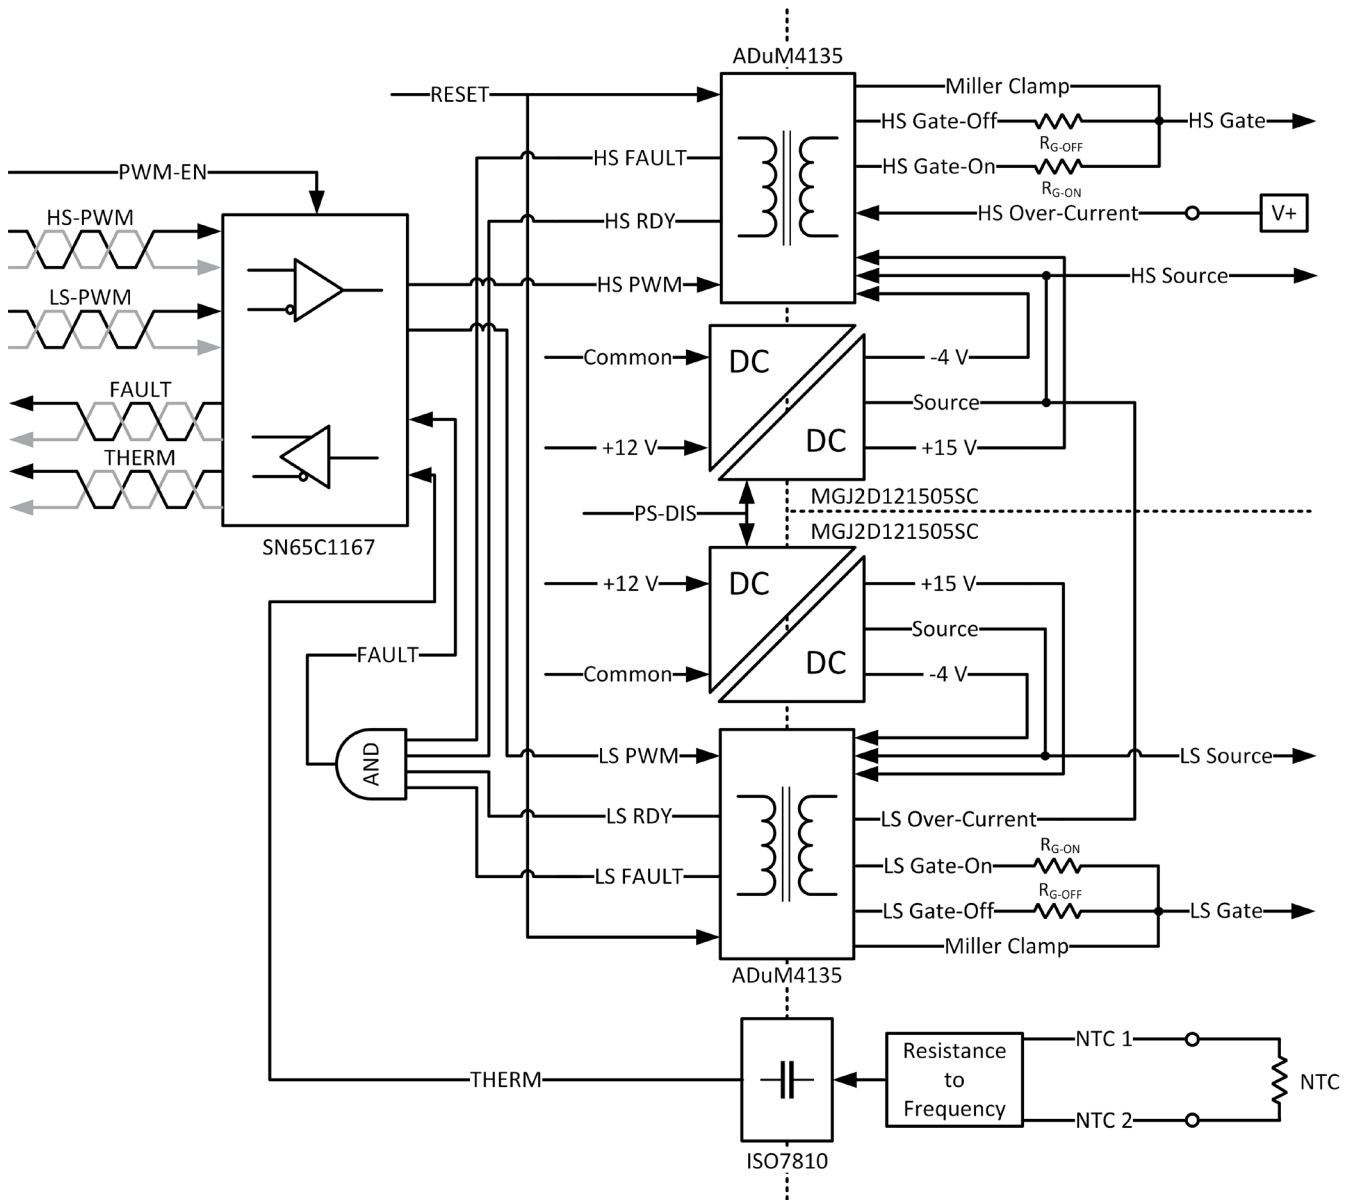
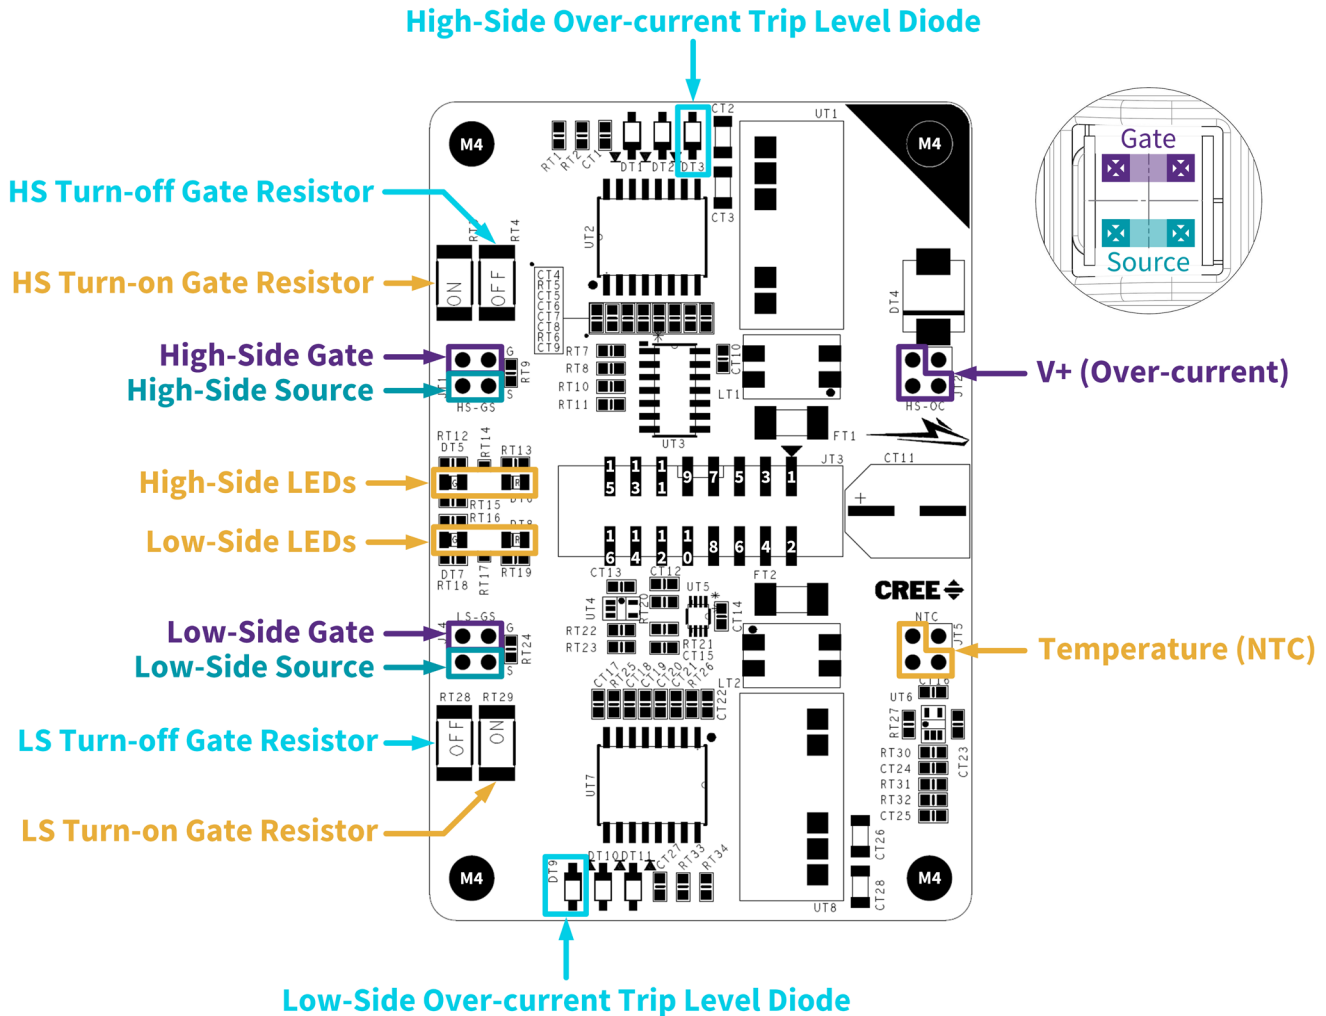

Figure 3: Block diagram of CGD12HBXMP gate driver
Figure 4: Interface of CGD12HBXMP gate driver
A block diagram of the full gate driver is shown in Figure 3. Both channels (high- and low-side) include a dedicated isolated DC/DC converter and gate driver integrated circuit (IC) for independent modulation of the respective channels. The gate driver communicates with a controller via differential signaling for both input and feedback signals. The gate driver combines all onboard fault signals (i.e. overcurrent and power faults for both channels) into a single global fault signal which is transmitted to the controller to indicate the board status. The board includes an overcurrent detection circuit, independent turn-on and turn-off resistors, Miller clamp, and thermistor feedback. Some notable interface features on the board are indicated in Figure 4.